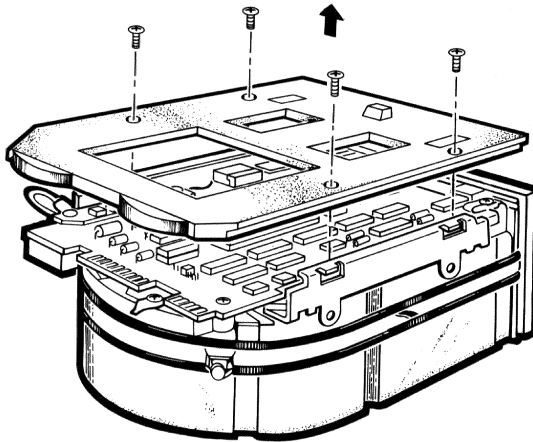

Figure 6-5 Skid Plate Removal (RD52)
1. Remove the four Phillips screws retaining the skid plate and ground clip. Set the skid plate aside. (Figure 6-5)